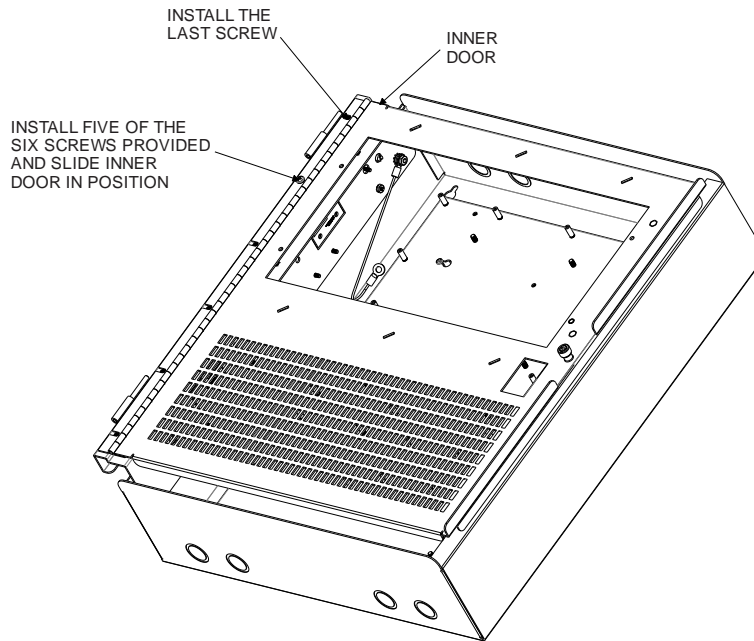

Figure 4: Mounting the Inner Door
5. Mount the inner door to the left bracket with the screws provided. Refer to Figure 4.